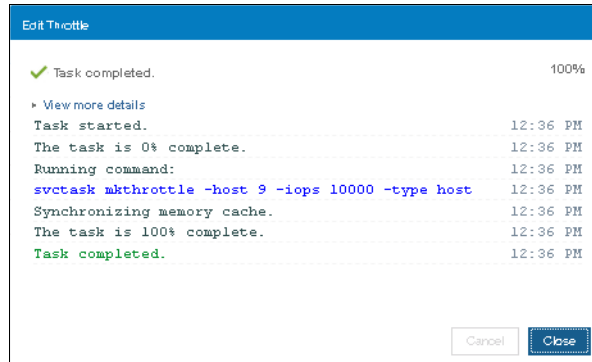

Figure 5-116 IOPS throttle set
4. Click **Create**. A window will open indicating that the task of setting up the throttle has completed as shown in Figure 5-116.